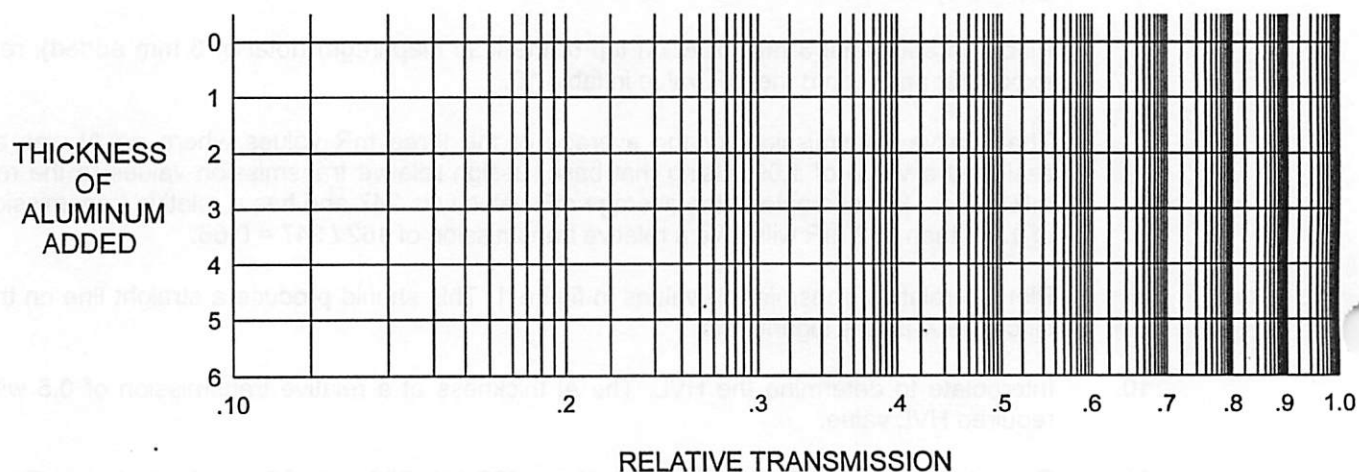

Figure 1: HVL plot 80 kVp
2. Use the test setup as per figure 1.
9. Plot the relative transmission values in figure 1. This should produce a straight line on the graph since the X-axis is logarithmic.